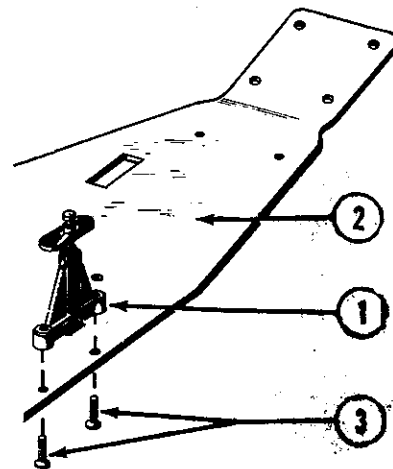

FIG. 1
1. Secure side bulkhead (1) onto chassis (2) using four 4-40 x 3/8" flathead screws (3). Fig. 1.